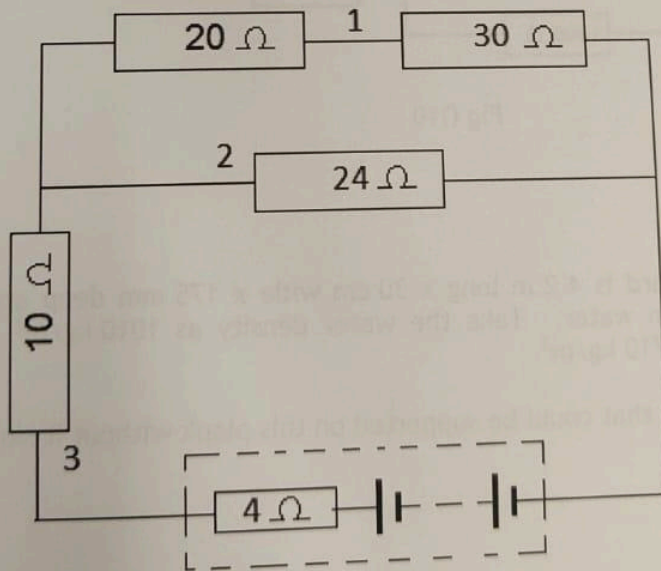

Fig Q8
8. Determine the current at points 1, 2 & 3 in the circuit shown in Fig Q8 if the cell e.m.f. is 32 V. (8)